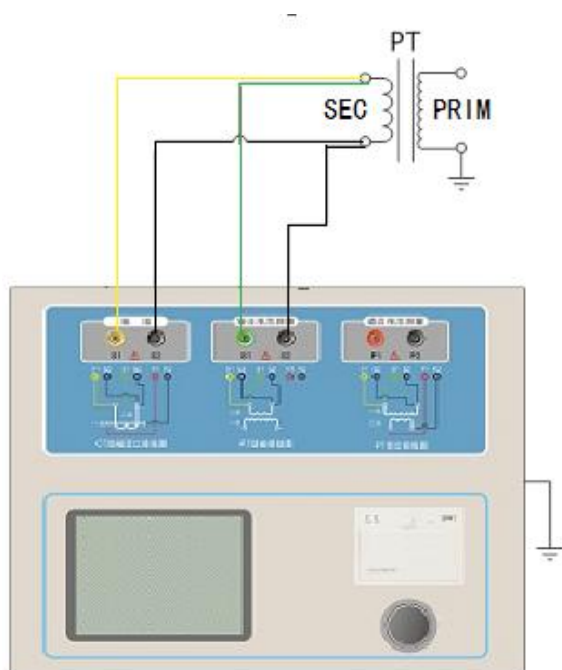
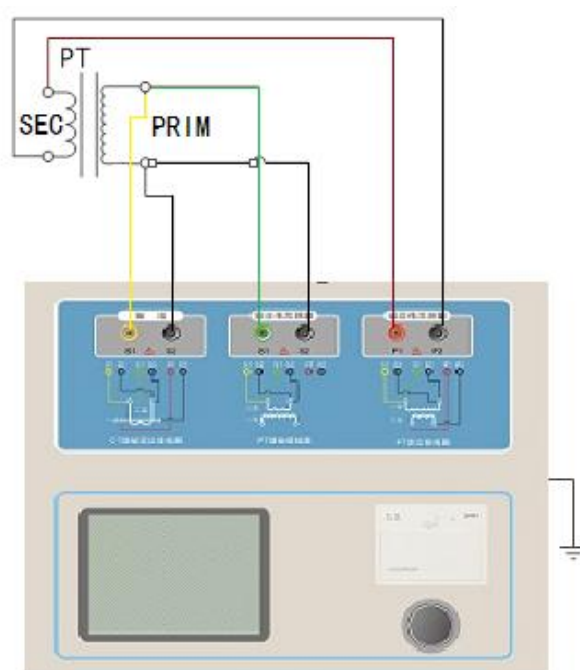

Fig 2.5 PT's DC resistance and excitation
Fig 2.6 PT's ratio and excitation
Step 1. According to PT testing program description of list 2.4, refer to figure 2.5 or figure 2.6 for wiring